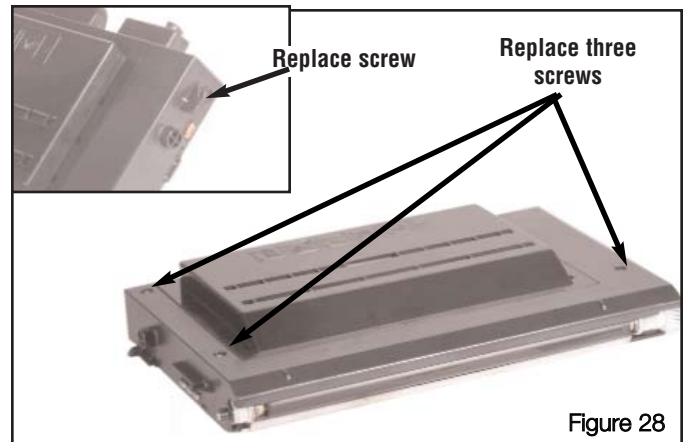

Figure 28
2. Replace the three screws on the top of the cartridge and the one on the primary geared side to secure the Cartridge Cover, see Figure 28.